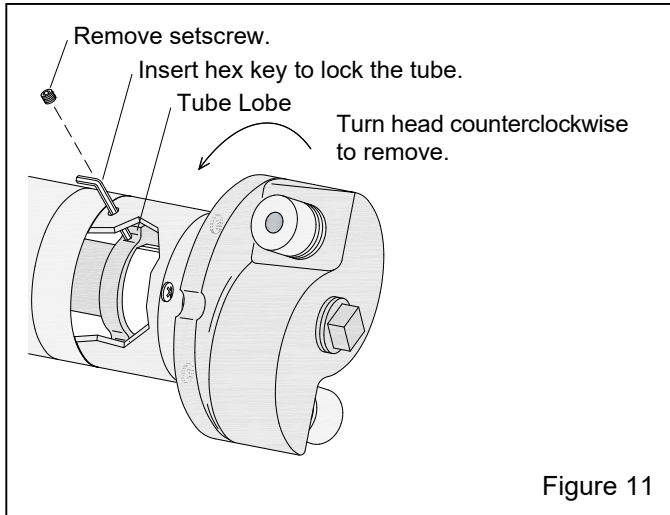

Figure 11
**6.1 Lock the Tube to Remove and Install the Nozzle Head – Figure 11**